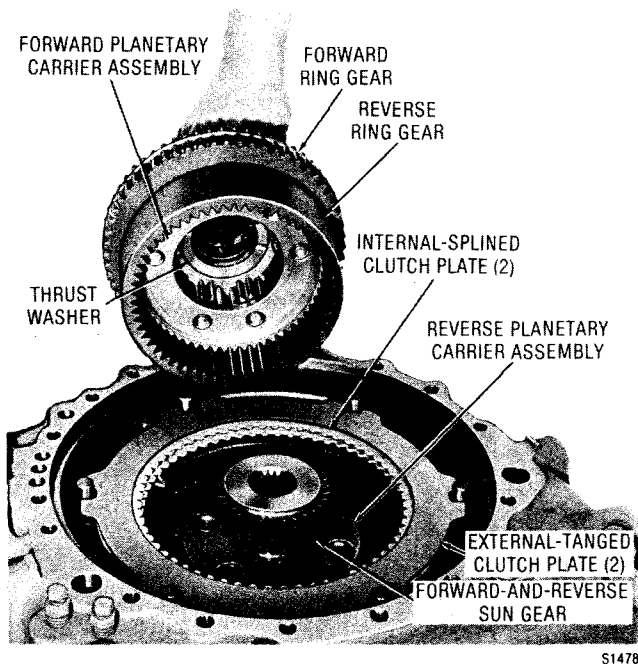

Fig. 7-50. Installing forward planetary carrier assembly and attached parts (TRT-3)
splined plates and two external-tanged plates (fig. 7-50).
(2) Install the forward-and-reverse sun gear into the reverse planetary carrier assembly (fig. 7-50).
(3) Install ring gear 1 (foldout 10,B) onto carrier assembly 30. Retain it with snapping 11. Install ring gear 14, longer ends of external splines first, onto carrier assembly 30.
(4) Install retainer 21, flat side first, onto the rear of carrier assembly 30. Install bearing assembly 22 against the shoulder at rear of carrier assembly 30.
(5) Install the thrust washer into the forward carrier assembly, using oil-soluble grease to retain it (fig. 7-50).
(6) Install the forward carrier assembly, as assembled in steps (3), (4), and (5), meshing its teeth with those of the reverse carrier pinions and the forward sun gear (fig. 7-50). Also, mesh the external splines of the forward ring gear with the installed internal-splined clutch plates.